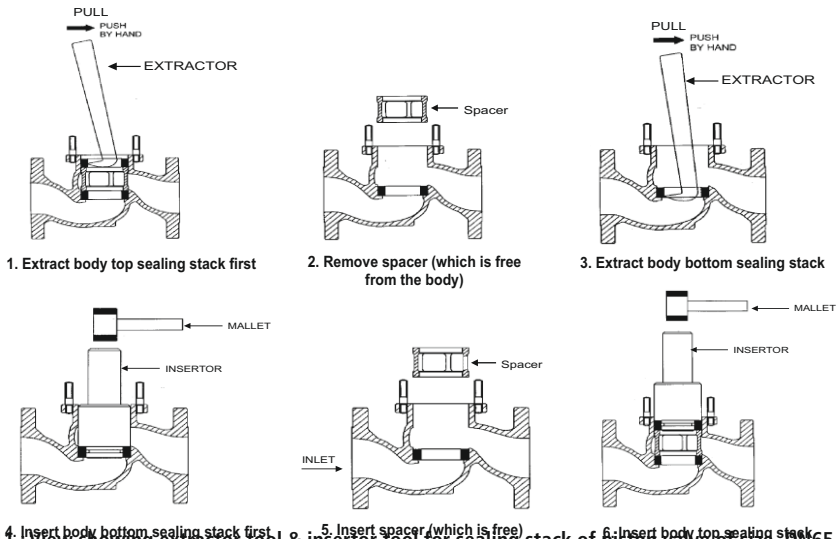
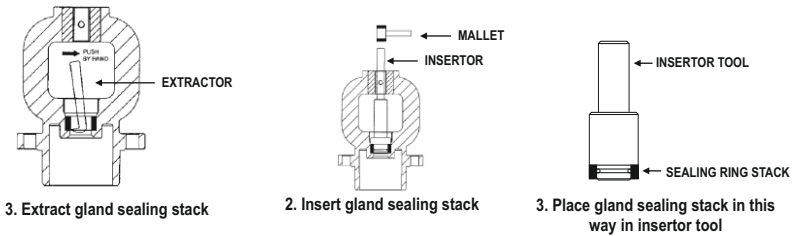

Fig. 11 : View showing extractor tool & insertor tool for sealing stack of piston valve of size DN65 - 200
Fig. 12 :View showing extractor tool & insertor tool for gland sealing stack of piston valve of size DN65 - 200
1. Keep piston valve fully open remove nuts (16) & Belleville washer (17) turns handwheel (18) in anti- clockwise direction until it touches the bonnet (2). Pull handwheel carefully along with bonnet (2) to remove piston (3) from body (1).
2. In case the bonnet assembly does not come out of the body (1) use tapped hole for removing bonnet assembly. Avoid any damage to piston (3).
3. Clean piston (3) with lint free cloth.
4. Remove body top sealing stack (4) with the help of extractor tool, remove spacer (5) [which is free in the body (1)] and remove body bottom sealing stack (4) with the help of extractor tool. Replace body bottom sealing stack (4), place spacer (5) and replace body top sealing stack (4) with the insertor tool. Use mallet to apply light strokes on insertor tool ensuring they fit perfectly. Insert bonnet sealing stack (14) carefully. (Refer figure 11 for extractor tool and insertor tool for piston valve of size DN65 – 200).
6. To replace gland sealing stack (10) remove nyloc nut (19) and handwheel (18). Hold bonnet (2) by hand and remove spindle-piston sub assembly by rotating spindle (6) in clockwise direction with the help of screw driver.
7. Remove gland nut (13) and extract gland sealing stack (10) with extractor tool. Insert new gland sealing stack (10) with the insertor tool. Use mallet to apply light strokes on insertor tool ensuring they fit perfectly. (Refer Fig. 12 for extractor tool and insertor tool for piston valve of size DN65 – 200). Screw gland nut (13) in the bonnet (2). Place bonnet (2) on spindle-piston sub assembly and rotate spindle (6) in anticlockwise direction until it stops.
8. Align bonnet piston-spindle sub assembly in the body top sealing stack (4) and push it gently. Place the handwheel (18) on the square of spindle (6), place name plate (21) and nyloc nut (19). Place Belleville washer (17) in the cup form and hand tighten all the nuts. Now rotate handwheel (18) in clockwise direction until it touches the bonnet (2). (Close position of the valve).
9. Tighten all the nuts (16) equally. Open isolation valve, if any leakage is observed through the gland tighten gland nut (13). In case leakage is observed at the outlet or between body face (1) and bonnet (2) tighten nut equally half or one turn as explained earlier.